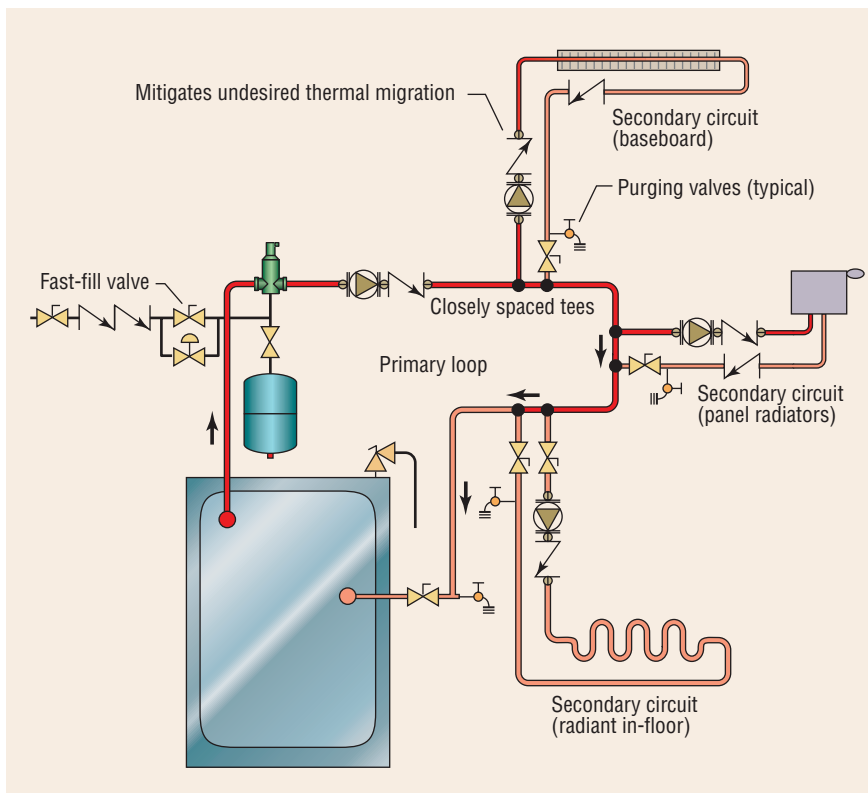

FIGURE 4. Three heating circuits.
Figure 4 shows three heating circuits, one above the primary heating loop, a second level with the primary loop, and a third below the primary loop. A common misconception is that heat rises. A more correct description is that heat travels to cold areas. If unchecked, a convective loop will form, which can cause load sources, such as radiators, to become heat emitters when a load does not exist on the system and the respective pump is off. This phenomenon, known as “thermosiphoning” or “ghost flow,” has other undesirable consequences, such as nuisance tripping of a pressure and temperature valve. To remedy this situation, all heat emitters located at or above a primary loop should be protected with flow checks, swing-loaded check valves, or return-side thermal traps to keep the heat where it is wanted. Supply and
- Employ series primary loops when water-supply temperatures of secondary loads vary. This allows for expanded temperature differentials. Pipe loads requiring the highest primary-water temperatures at the beginning of a loop. Temperatures decrease as loads travel around the loop, back to the boiler taps (Figure 4).